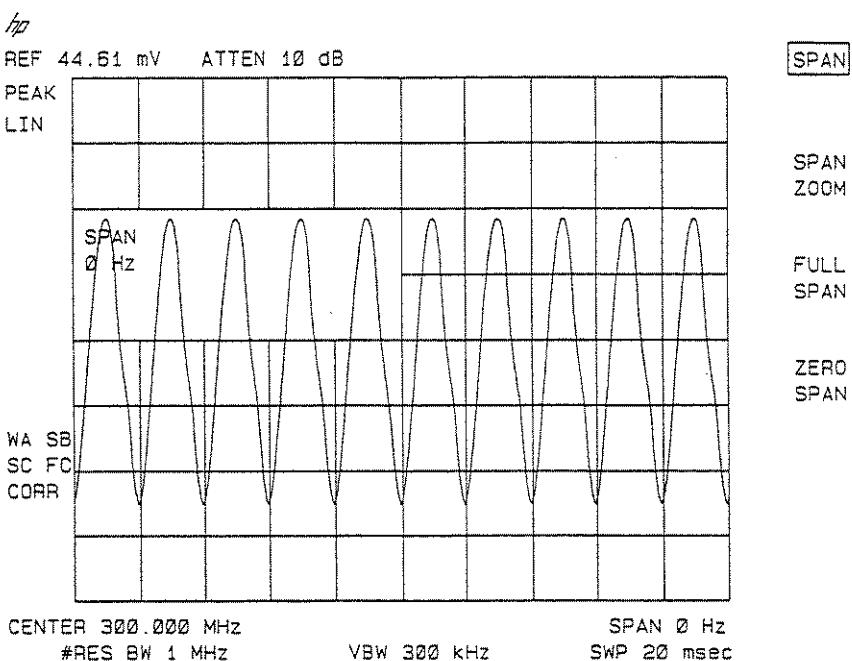

Figure 2-27. Measuring Modulation In Zero Span
5. To select zero span, either press **SPAN**, 0 **Hz** or press **ZERO SPAN**. See Figure 2-27. If the modulation is a steady tone (for example, from a signal generator), use video trigger to trigger on the waveform and stabilize the display. Adjust the sweep time to change the horizontal scale.